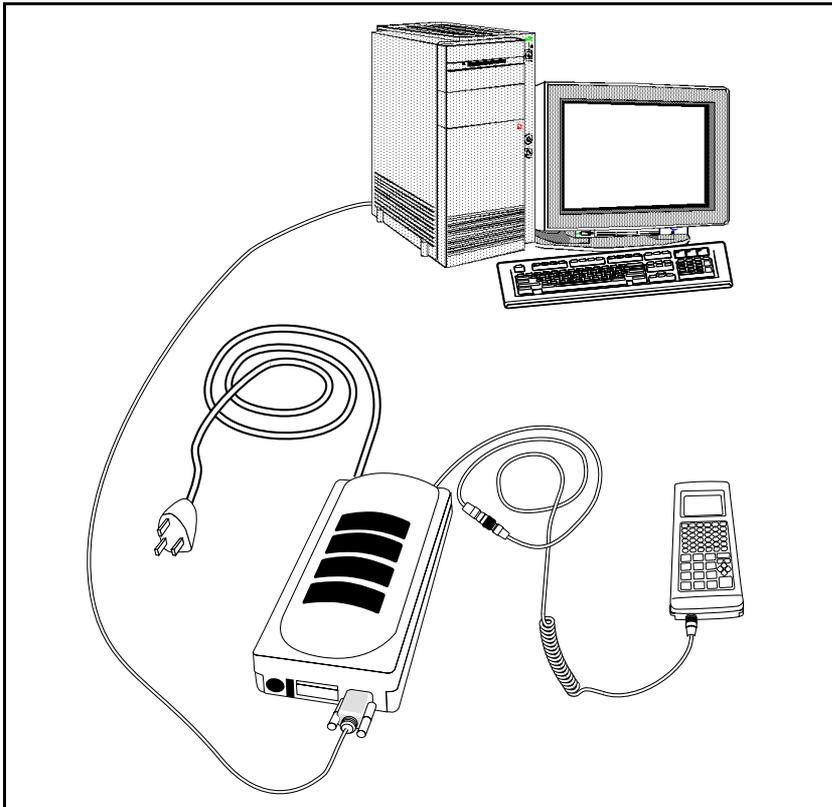

Figure 3-1 Cabling for Asset Surveyor Installation
1. Connect the equipment listed on page 3-2 as shown in Figure 3-1.